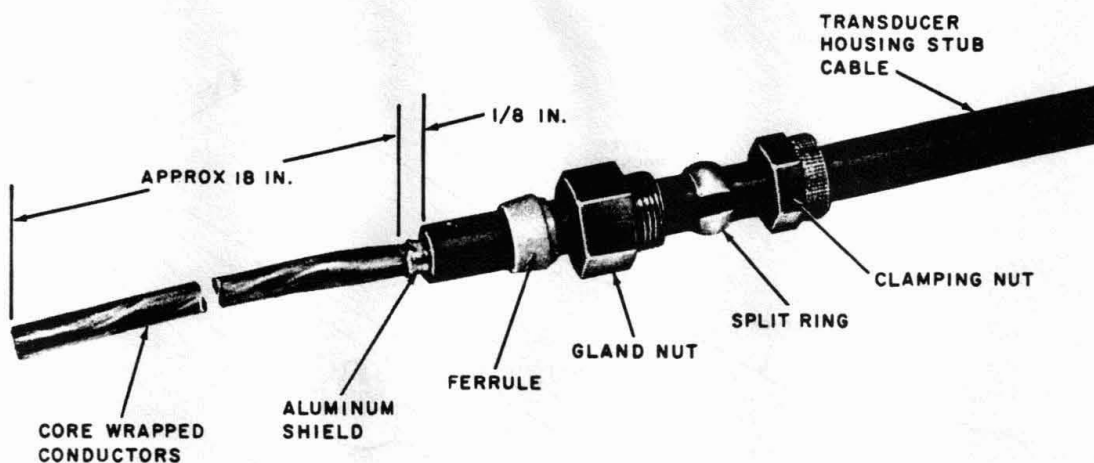

Fig. 8—Arrangement of B Stub Cable Fitting on Transducer Housing Stub Cable
- (1) Position the transducer housing stub cable in its approximate final position and cut off excess cable.
- (2) Remove the sheath and aluminum shield to expose approximately 18 inches of the core wrapped conductors.
- (3) Remove 1/8-inch of sheath to expose the inner aluminum shield as shown in Fig. 8.
- (4) Slide the components of the B stub cable fitting onto the stub cable in the order shown in Fig. 8.